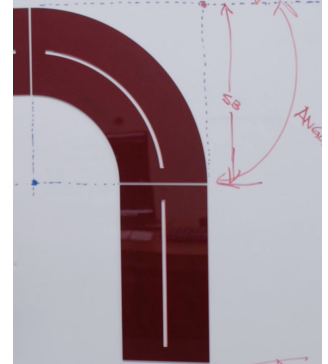

Figure 1.6
- **Centerline (CL):** The centerline represents the midpoint of the material's thickness in the flat section. In unbent areas, it equals half the material's thickness. In Jake's diagram, the centerline corresponds to the cutout portion of the model (see Figure 1.6).